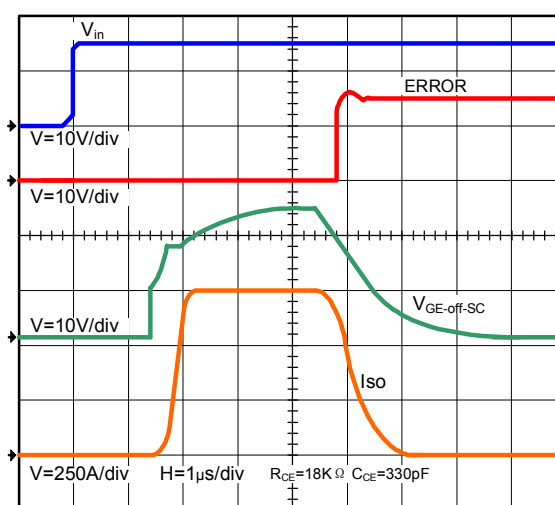

Fig.3 Soft turn-off waveform
- In case of short-circuit, a further circuit (SOFT TURN-OFF) increases the resistance in series with R_{Goff} and turns-off the IGBT at a lower speed.This produces a smaller voltage spike above the DC link by reducing the di/dt value.Because in short-circuit conditions the Homogeneous IGBT’s peak current increases up to 6-8 times the nominal current, and some stray inductance is always present in power circuits, it must fall to zero in a longer time than at normal operation to avoid damage IGBT by high voltage spike.The default resistor used for soft turn-off is 22 Ω , this “soft turn-off time” can be reduced by connecting a parallel resistor $R_{Goff-SC}$ on J11,K11 with those already on the printed circuit board(see Fig.3)